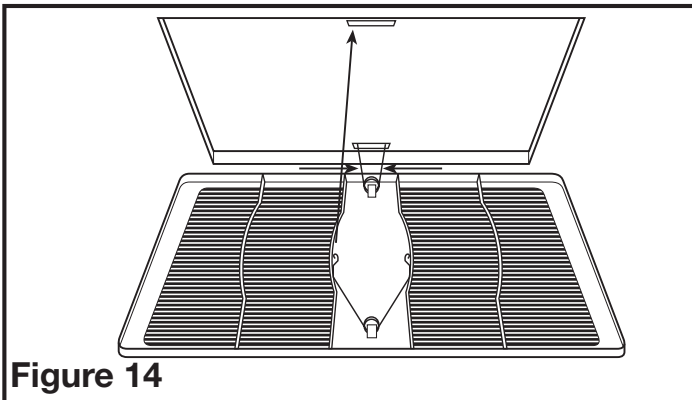

Figure 14
- 5a. **STANDARD AND HUMIDITY SENSING MODELS:** Install the grill by squeezing the two ends of the springs together and installing them up into the slots on the fan's housing. Push the grill up into position (Figure 14).